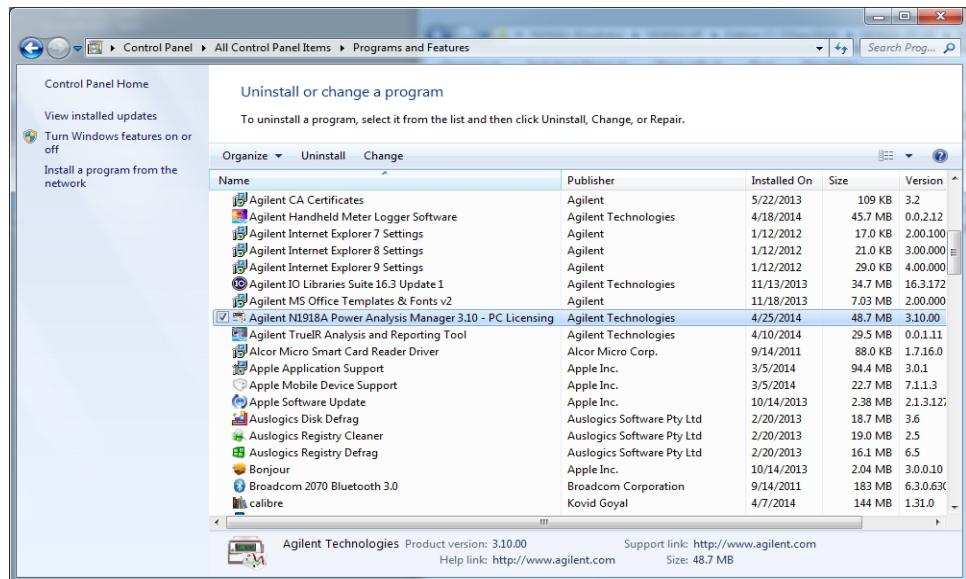

Figure 8 Installed Keysight N1918A Power Analysis Manager
- 3 Check the list and locate the installed N1918A Power Analysis Manager as shown in **Figure 8**.